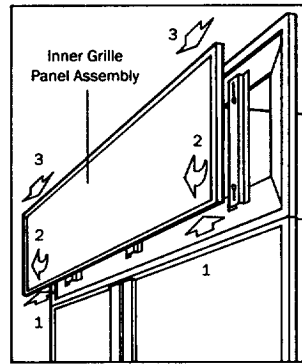
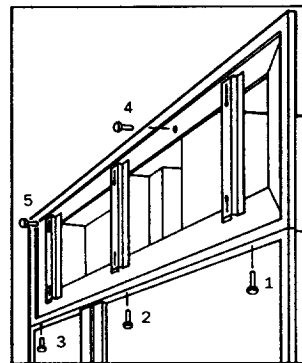
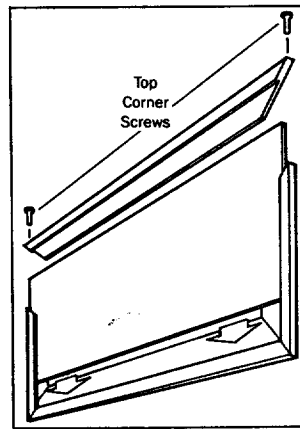

Figure 9
Figure 10
Figure 28
To remove Model 590 grille assembly, the inner grille panels assembly must first be removed. Lift up (1), then pull out at the bottom (2), then pull top section down and out of the top key slot (3) as in Figure 9. Next, remove the five mounting screws that hold the outer grille panel assembly to the top compartment. See Figure 10.
Remove the inner grille panel assembly (refer to Figure 9 on page 14) and remove the top two corner screws and pull away the top frame. See Figure 28.
Lay the remaining panel assembly on a flat surface and insert the panel insert into position in the grille frame as shown in Figure 28.
Reattach the top frame and install the inner grille panel assembly back onto the unit. See Figure 9 on page 14.